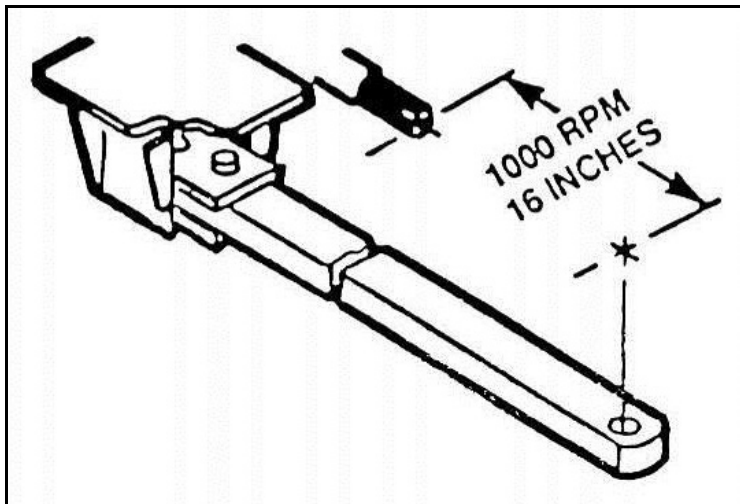

Figure 4.1 Drawbar
- The tractor drawbar dimension must be 16" (406 mm) between the end of the tractor PTO shaft and drawbar pinhole center for the 1000 rpm (see Figure 4.1). This will provide sufficient clearance for turning and allow telescoping of the shaft. Consult your tractor manual for the drawbar adjustment procedure.